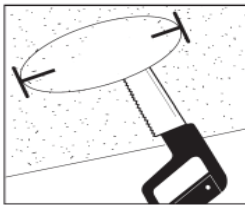

Figure 1 / Figura 1 / Schéma 1
- If new hole is to be cut, use provided hole template. Place template over the desired location. Trace the outer ring with a pen or pencil (not included). Cut the opening with a saw (not included). (Figure 1)